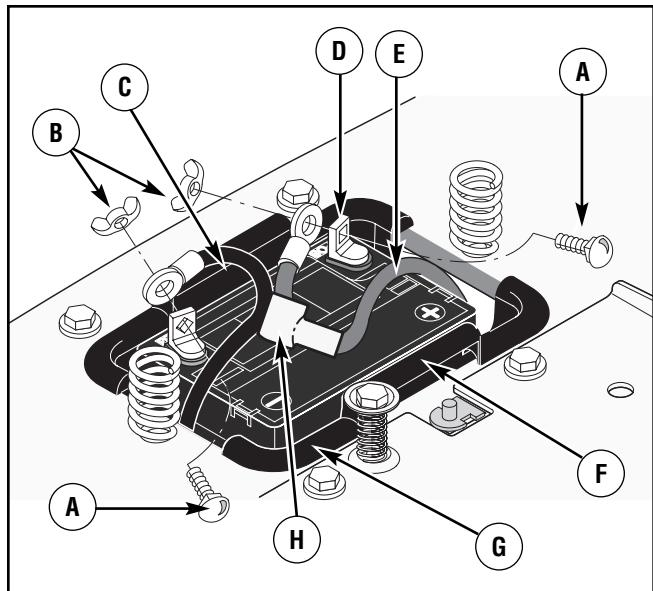

Figure 29: Battery
1. Disconnect the **black cable** from the negative (-) terminal (Figure 29).
5. Fasten the **black cable** to the negative (-) terminal with the fasteners as shown (Figure 29).